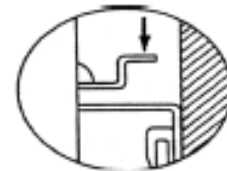

Fig.1
1. Remove wall mounting bracket from back of heater by de pressing the two spring latches at the top of the heater (see Fig.1)